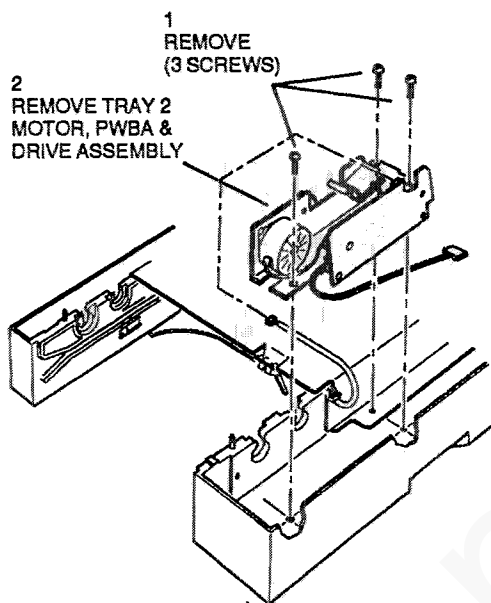

Figure 1. Tray 2 motor, PWBA & drive assembly removal
3. (Figure 1) Remove the tray 2 motor, PWBA and drive gear assembly.